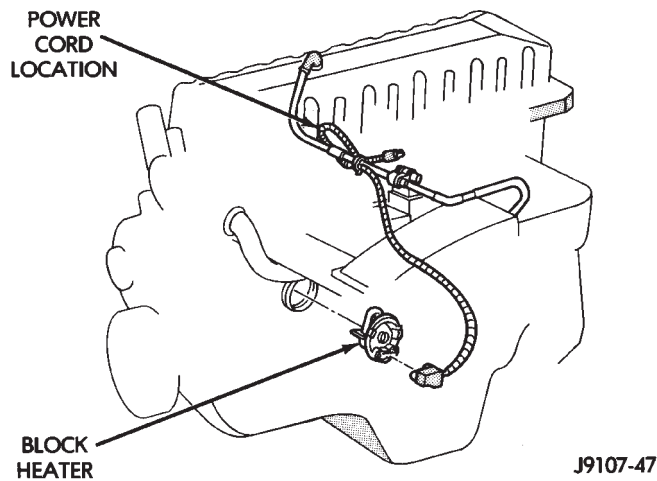

Fig. 1 Block Heater—4.0L Engine
An optional engine block heater (Figs. 1 or 2) is available with for all models. The heater is equipped with a power cord. The cord is attached to an engine compartment component with tie-straps. The heater warms the engine providing easier engine starting and faster warm-up in low temperatures. The heater is mounted in a core hole of the engine cylinder block in place of a freeze plug with the heating element immersed in engine coolant. Connect power cord to a grounded 110-120 volt AC electrical outlet with a
- (5) Remove power cord from block heater (Figs. 1 or 2).
(6) Loosen screw at center of block heater. Remove heater assembly.